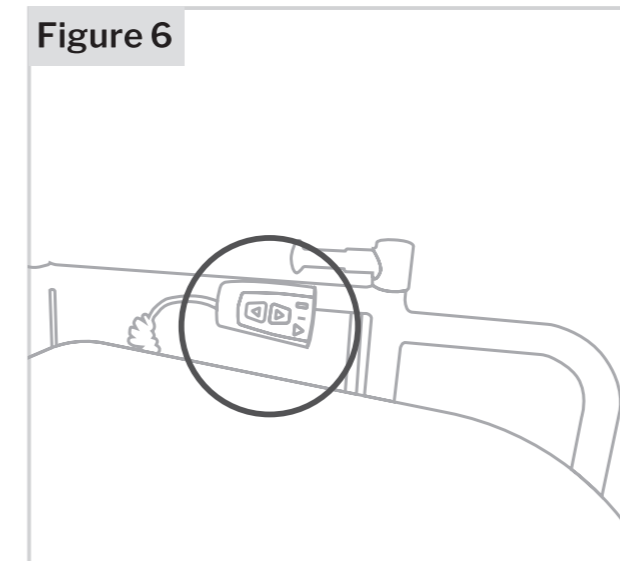

Figure 6
D. When not in use we recommend you attach the remote control to a velcro strip that will be attached to the wheelchair side handles -Illustrations - **figure 6+7**.